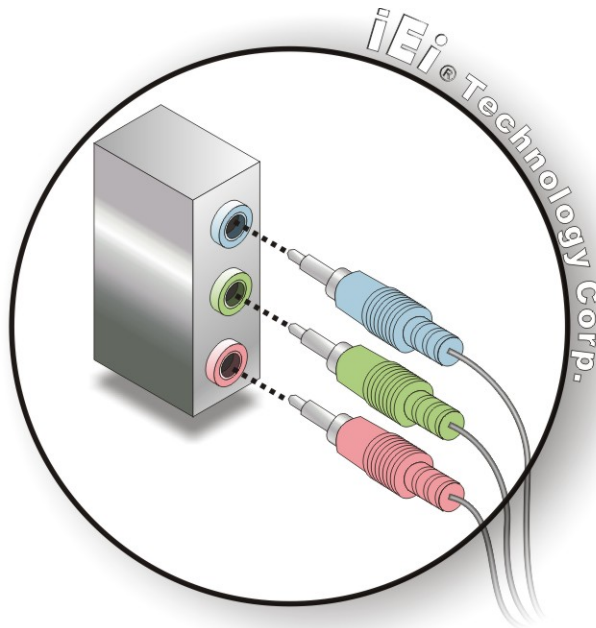

Figure 4-17: Audio Connectors
Step 2: Insert audio phone jack plugs. Insert audio phone jack plugs into the audio phone jacks on the external peripheral interface. See **Figure 4-17**.